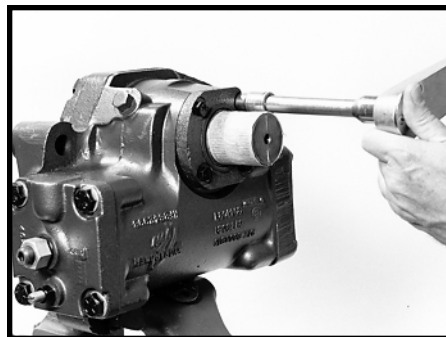

Figure 153
- Visually inspect the housing bearing (21) to make sure that all of the bearing rolls are properly in place. Then install the trunnion cover (26). SEE FIGURE 152. Install the four trunnion cover bolts (28) and torque them to 15-22 ft. lbs. (20-30 N m) if dry or 11-16 ft. lbs. (15-22 N m) lubricated. SEE FIGURE 153.